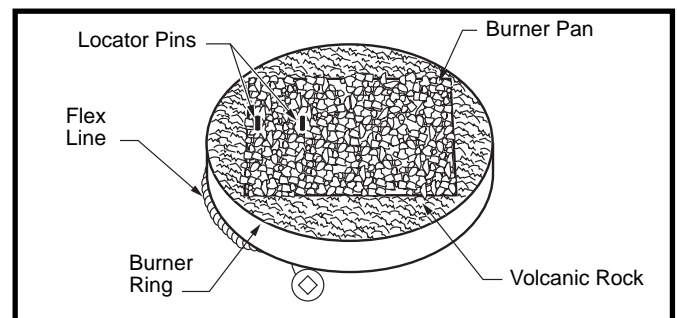

Fig. 10 Arrange volcanic rock evenly around and on burner pan.
3. Place volcanic rock evenly around and on burner pan if you have not already done so. (Fig. 10)